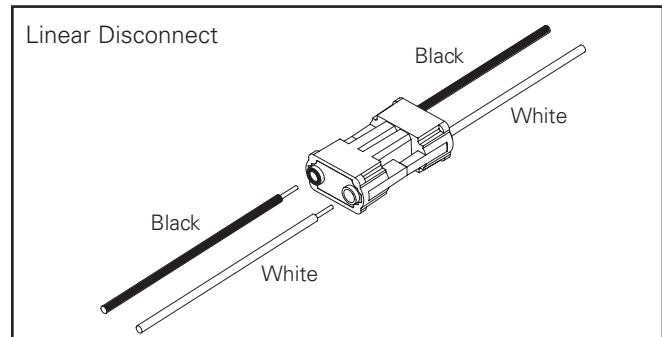

Figure 4.
- Make necessary wiring connections to driver AC line input. A Linear Disconnect is provided to speed installation (Figure 4). Optional DALI or 0-10V dimming circuits are wired. See Wiring Diagrams